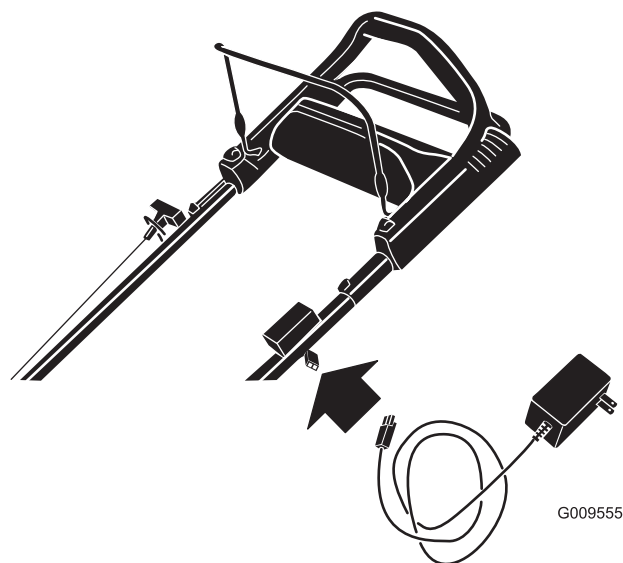

Figure 25
1. Connect the charger to the machine wire harness located below the ignition key (Figure 25).